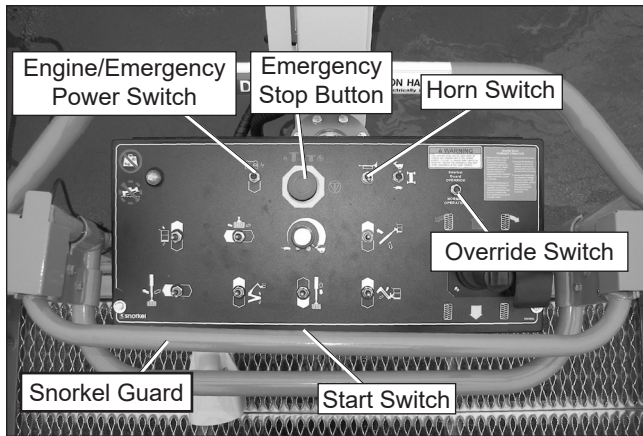

Figure 7.14 – Upper Controls
3. At the upper controls (refer to Figure 7.14), pull the emergency stop button outward.
3. At the upper controls (refer to Figure 7.14), pull the emergency stop button outward and place the start switch in the on position.
The machine is equipped with a horn. Operate the horn switch (refer to Figure 7.14) to ensure that it sounds to warn personnel in the area.
3. At the upper controls, pull the emergency stop button outward (refer to Figure 7.14).